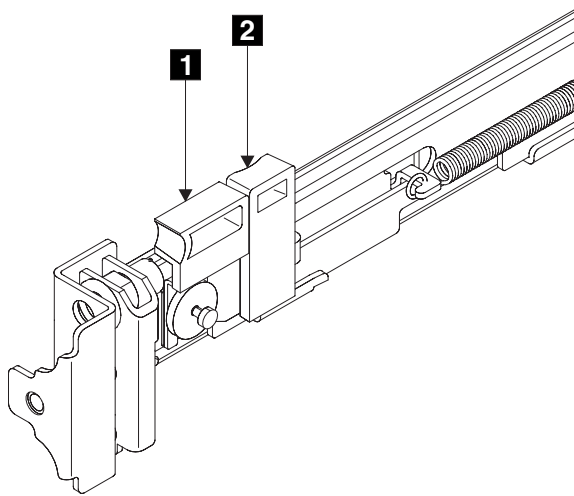

Figure 63. Retracting the latch-lock carrier
2. Put your index finger against the side of the latch-lever, **1** in Figure 63, and put your thumb against the front of the latch-lock **2**.